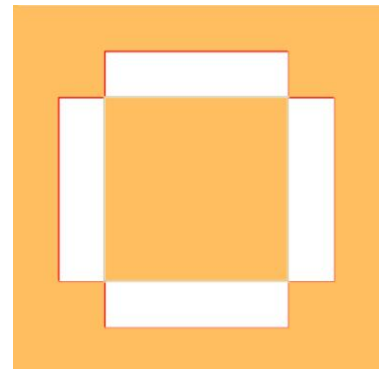

Figure 2
Step 3: Leave the mat in the machine (...still cutting from the back), cut a single offset corner opening around the v-groove, setting the offset distances to the depth of the box required. (*Figure 2*)